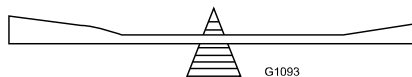

Figure 40
2. Check the balance of the blade by putting it on a blade balancer (Figure 40). If the blade stays in a horizontal position, the blade is balanced and can be used. If the blade is not balanced, file some metal off the end of the sail area only (Figure 39). Repeat this procedure until the blade is balanced.